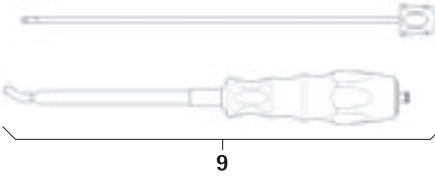

Fig. 5
- To dismount rod insertion instrument 9, see Fig. 5: Unscrew the inner part.